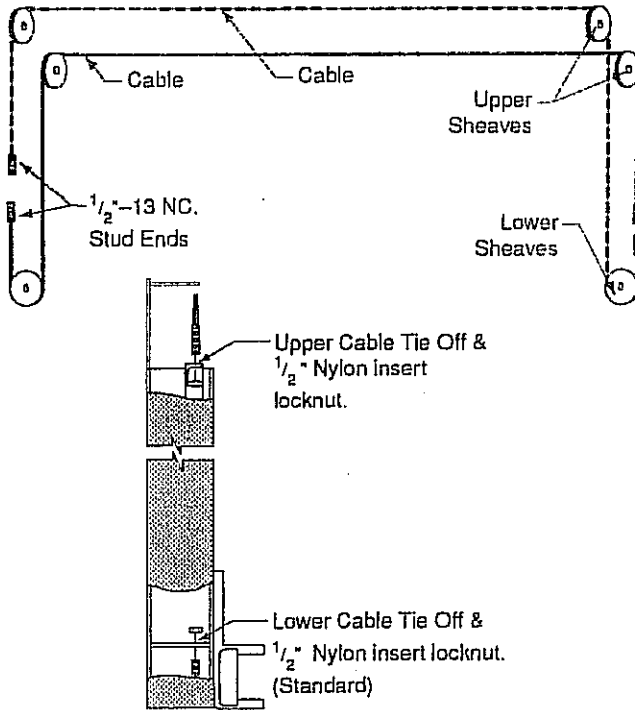

Fig. 10
11. **Equalizing Cables:** Fig. 10 describes general cable arrangement. It's easier to tie off lower studs first. Run cable stud up thru the lower tie off plate, and bracket(s) depending on lift model, using  $\frac{9}{16}$ " hole. Push cable up until stud is above top of carriage tube. Run nylon insert locknuts onto studs so that  $\frac{1}{2}$ " extends out from top of locknut, then pull cable back down, Fig. 10. Run cable overhead and tie off top studs torquing to about 10 ft.-lbs.